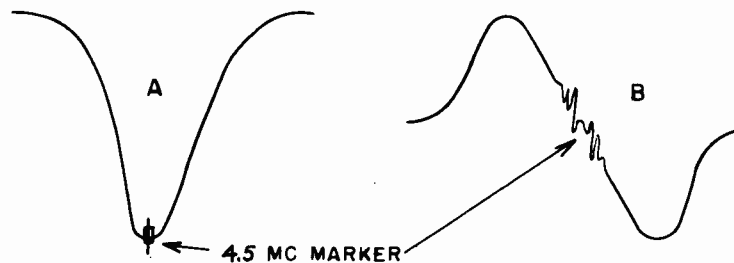

Fig. 23. Audio I-F Curve
4. T401 is adjusted for maximum amplitude and symmetry of the response curve about the 4.5 mc marker as shown in Figure 23-A.
5. The secondary of T402 is adjusted for the curve of Figure 23-B. This adjustment should give as straight a slope as possible between the positive and negative peaks of the curve with the center of the 4.5 mc marker falling midway between the peaks.